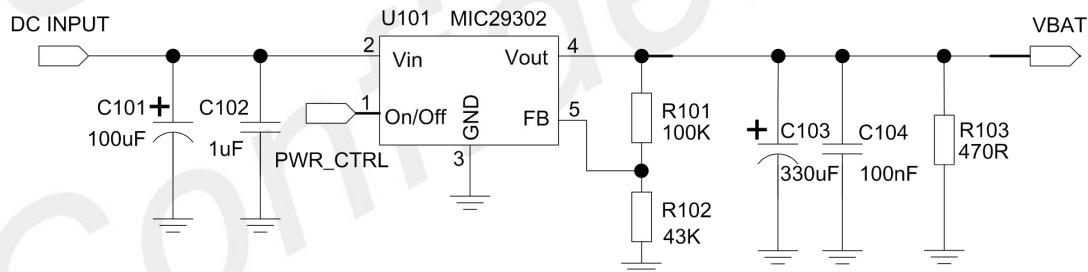

Figure 3: LDO power supply reference circuit
For non-battery applications, if the DC input voltage is +5V and users do not care about the power efficiency, a high-current low-dropout regulator is recommended. The reference design is shown in Figure 3.
- To ensure a proper behavior of the regulator under light load, an extra minimum load (R103 in Figure 3) is required, because the current SIM8960x consumed is very small in sleep mode and power off mode. For more details about minimum load, please refer to specification of MIC29302.